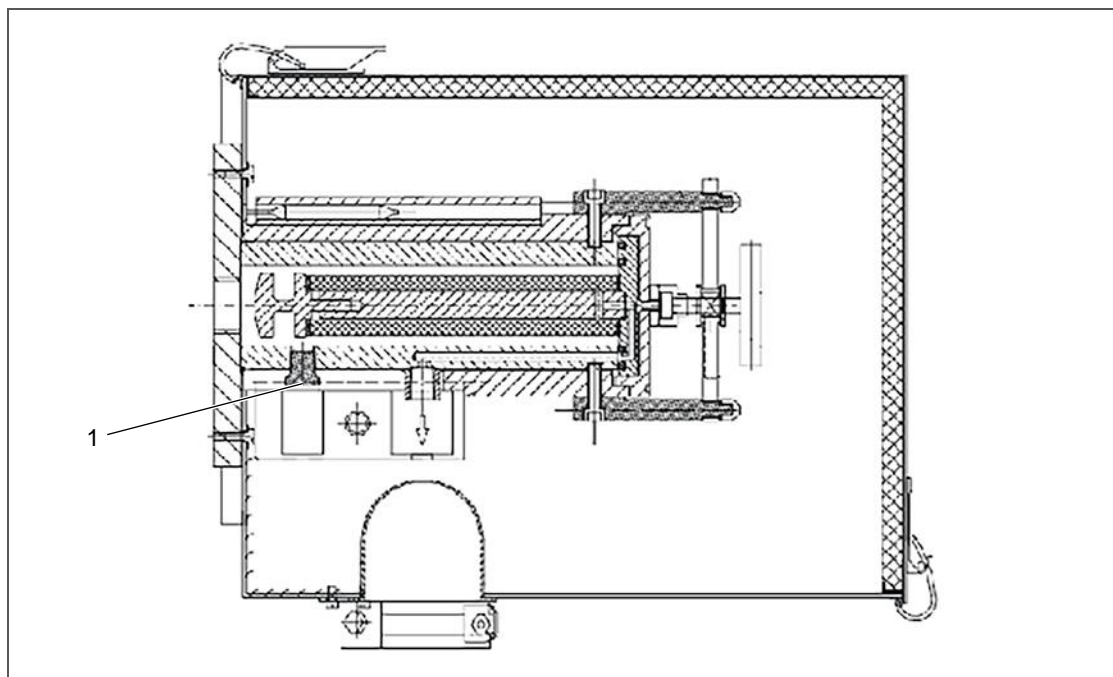

Fig. 37: Test gas provision via gas sample probe
2. Connect the pipes for test gas provision with the test gas connection (1, Fig. 37).
2. Remove the pipes of test gas provision from the test gas connection (1, Fig. 37).